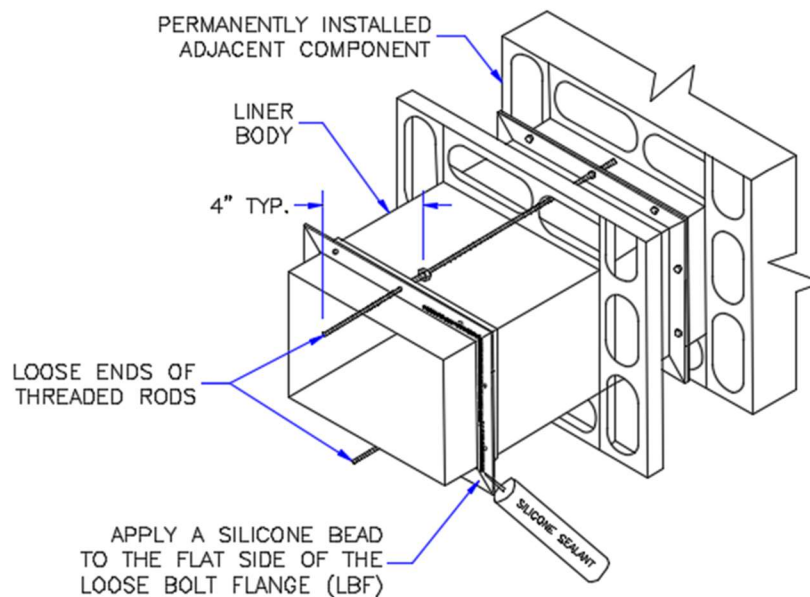

Figure 7: Slide the Loose Bolt Flange over the Liner Body and apply a bead of silicone.
- It is important to choose holes that allow the threaded rod to pass unobstructed through the spacer. (See figure 7)
12. Place a bead of silicone to the flat side of the LBF all the way around. (*See figure 7*)